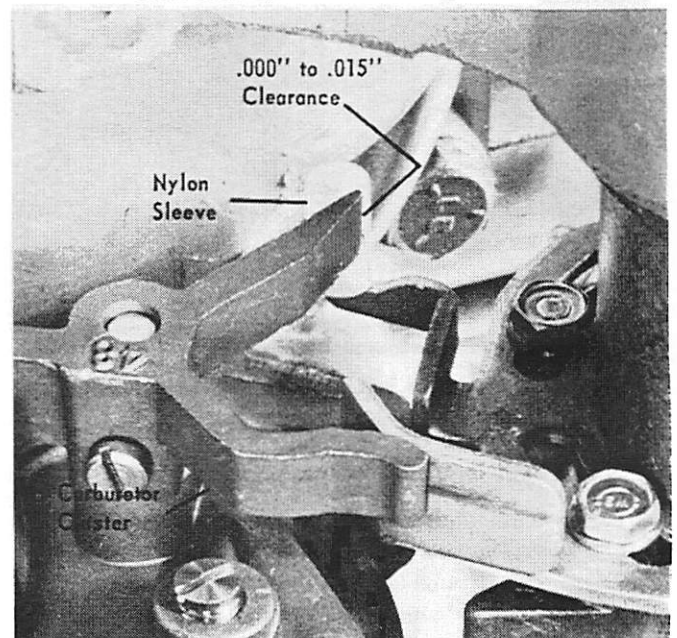

Figure 6. Forward Pickup Adjustment
11. Slide throttle pickup plate so that first throttle pickup tab (without nylon sleeve) just touches carburetor cluster. (Figure 6)